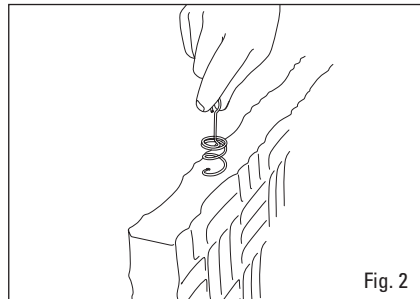

Fig. 2
2. Center the corkscrew hanger over the dot. Holding the hanger vertically, press down lightly and turn. See Figure 2. Allow the downward pressure to pierce the foam; do not poke the hanger point into the foam. If necessary, spray hanger with dry lubricant.